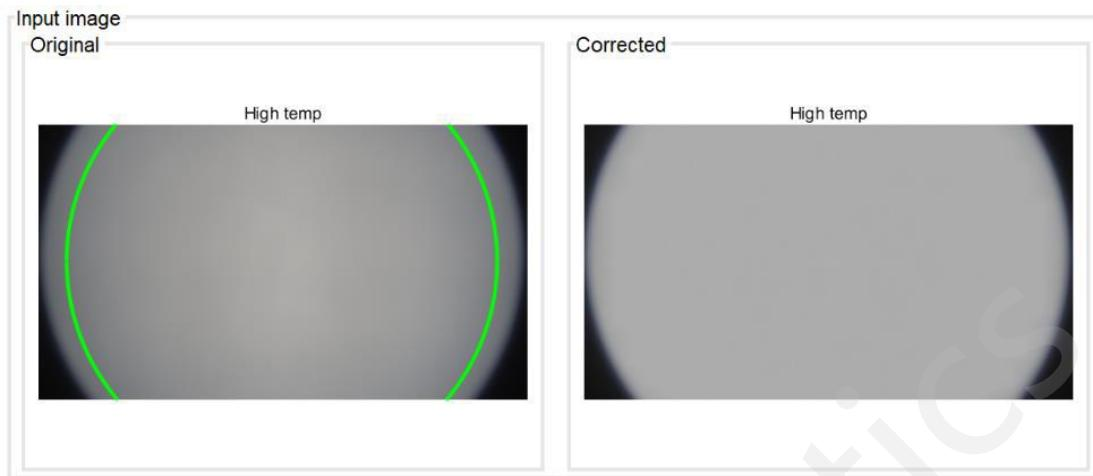

Figure 3.9-3 Example of Fisheye ROI.
4. (Optional) Tick Fisheye ROI if fisheye lens applied, a green circle will display on Original window, adjust X and Y bar after “Load image” to find a correspond region then enter Luma, Chroma strength to see the preview on Corrected window. Notice, depends on Mesh size the edge of ROI might shows over bright blocks, please reduce ROI size as Figure 3.9-3 to eliminate this effect.